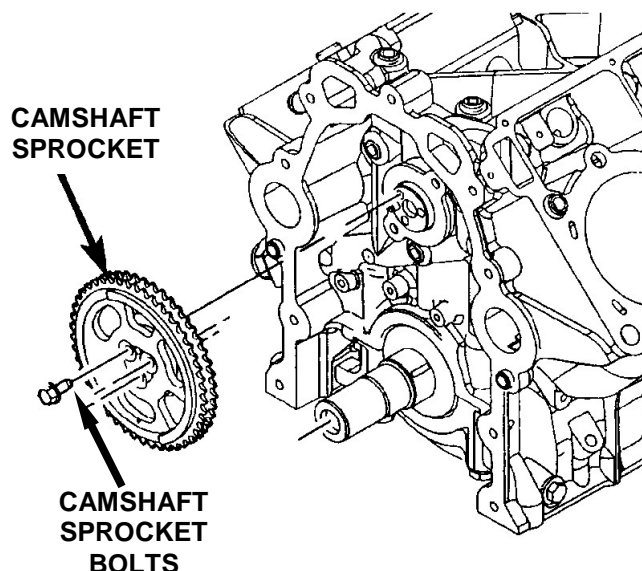

Figure 8
42. Inspect the three (3) camshaft sprocket bolts (Figure 8).